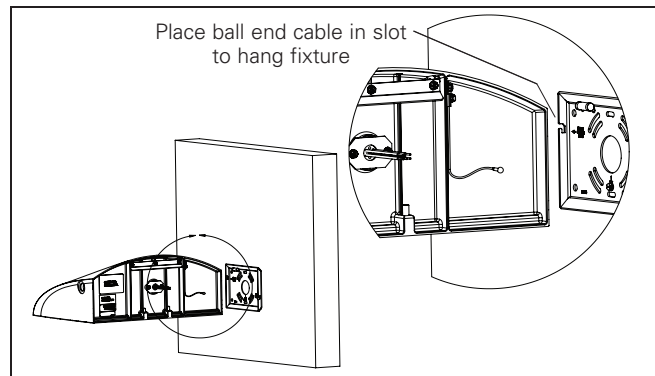

Figure 3.
3. Hang the fixture from the wedge plate using the ball ended cable located on the back of the fixture. (Figure 3).